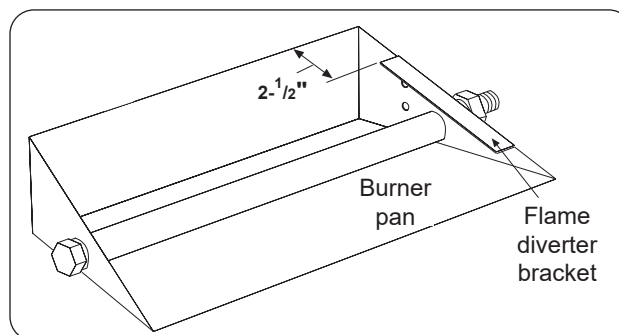

Fig. 6-3
1. Place the flame diverter bracket over the side edge of the burner pan, near the location the safety control system pilot bracket will be attached. It should be placed **approximately  $2\frac{1}{2}$ "** from the rear wall of the burner pan (see Fig. 6-3).